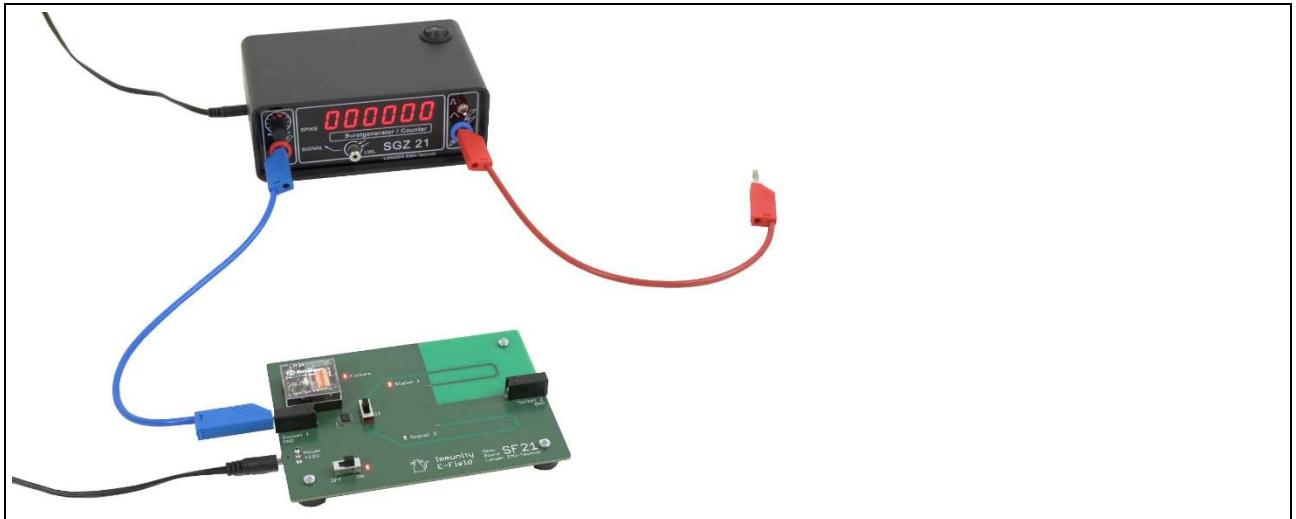

Figure 17: SF 21 is single-pole connected to the SGZ 21
- SF 21 is supplied via power supply unit. One output of the SGZ 21 is connected via Socket 1. At the second output of the SGZ 21 there is a cable which is not connected to the SF 21 (Figure 17).